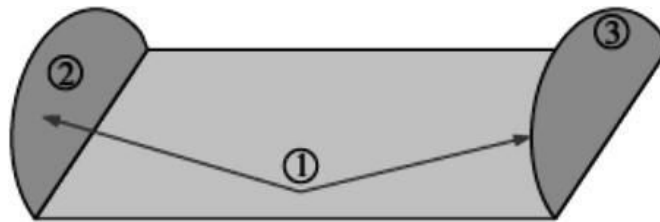

Fig. 6.6 Symmetry rule
- So, the symmetry rule can be expressed as two or more surfaces that possess symmetry about a third surface will have identical view factors from that surface. From the figure 6.6